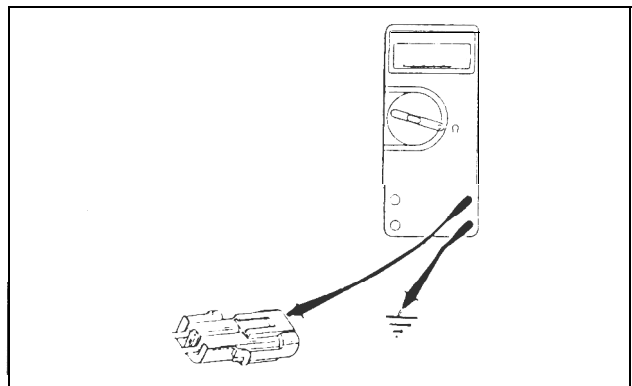

FIG. 1.1.42
**Correction:** Measure the resistance of each tach sender wire to ground (Fig. 1.1.42). The one wire with a reading of 0 ohms is at ground potential. This wire should be cut and the two ends insulated. If the problem continues, add a separate sending unit for the low speed signal.